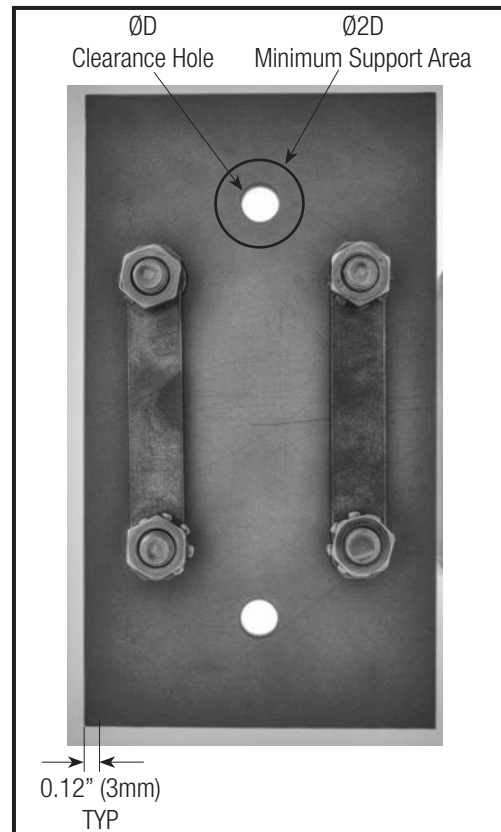

Figure 6-1 Bottom of Base Plate Showing Mounting Holes and Minimum Support Area.
1. Mount the base plate assembly using the provided clearance holes for socket head cap screws. See **Figure 6-1**.